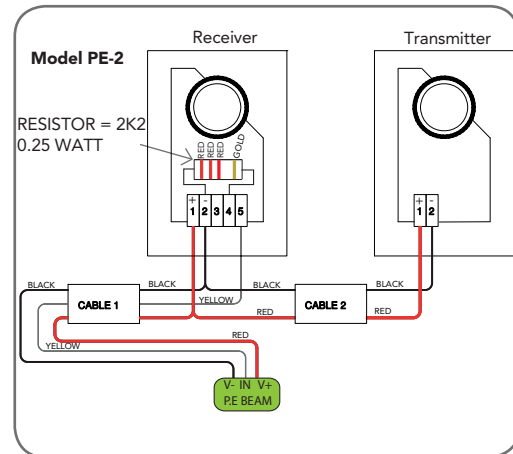

fig 67
- Connect the wires from the PE Beams wiring harness to terminal block (Fig. 67). The wiring diagram is for Model PE-2 (Order Code 90214).